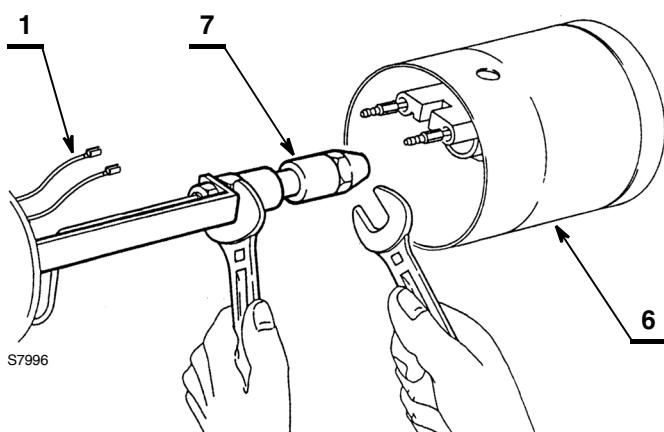

Fig. 27
- Replace the nozzle 7) (Fig. 27), holding the nozzle-holder with the help of a spanner